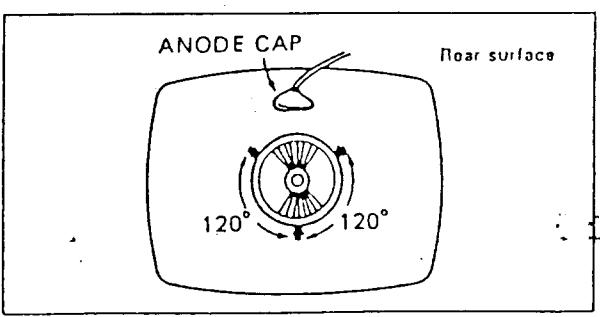

Fig. 6
4. Repeating 2 and 3, fix the position of the deflecting yoke with 3 wedges : so as to produce the best condition for the convergence of points L, R, T and B, on the screen. Removable paper of the double-sided adhesive tape on the wedges should be removed first, and as Fig. 6 shows, inserting the wedges in order of A and B using double-sided adhesive tape after they are firmly inserted into position.